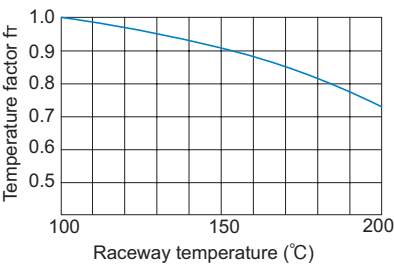

Fig.2 Temperature Factor (f_r)
- f_r : Temperature factor (see Fig.2 on A-577)
If the temperature of the environment surrounding the operating model VR or VB exceeds 100 °C , take into account the adverse effect of the high temperature and multiply the basic load ratings by the temperature factor indicated in Fig.2.